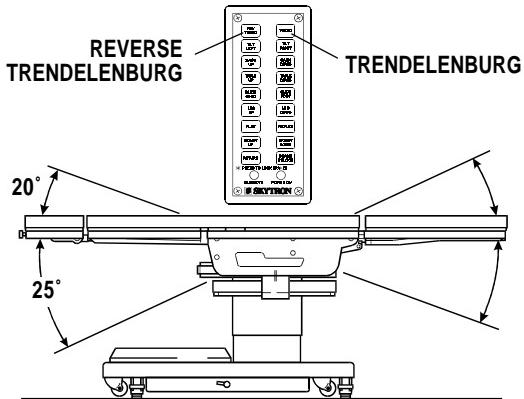

Figure 2-4. Trendelenburg Positioning
**b. Trendelenburg.** To place the surgical table in a trendelenburg (head down) position, press the TREND button (figure 2-4). Trendelenburg positioning of up to 25° may be obtained. To place the table in a reverse trendelenburg (head up) position, press the REV TREND button. Reverse Trendelenburg positioning of up to 20° may be obtained.